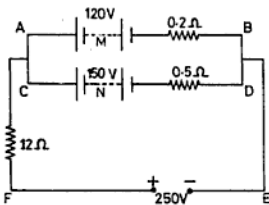

Fig. NE 9.30
- 9.30 Two batteries  $M$  and  $N$  are connected to a 250 V dc supply for charging through a  $12\ \Omega$  resistance as shown in Fig. NE 9.30. Battery  $M$  is of emf 120 V and internal resistance  $0.2\ \Omega$  and battery  $N$  of emf 150 V and internal resistance  $0.5\ \Omega$ . Find :